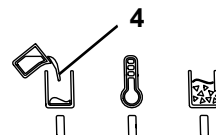

Fig. 12
- ♦ The "Heating / Ready for operation" indicator (5, Fig. 12) is off.